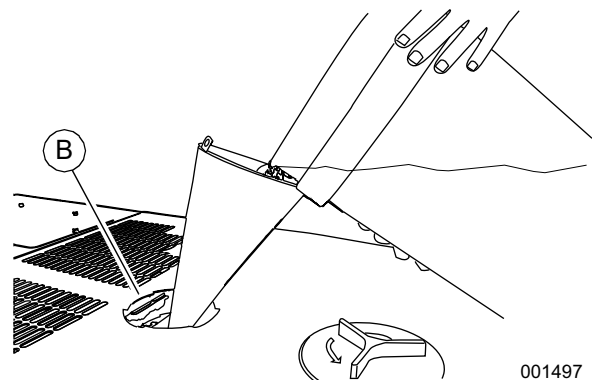

Figure 5-15. Filling Coolant System
14. See Figure 5-15. Insert funnel into filler neck of radiator (B). See Draining and Flushing Coolant System.